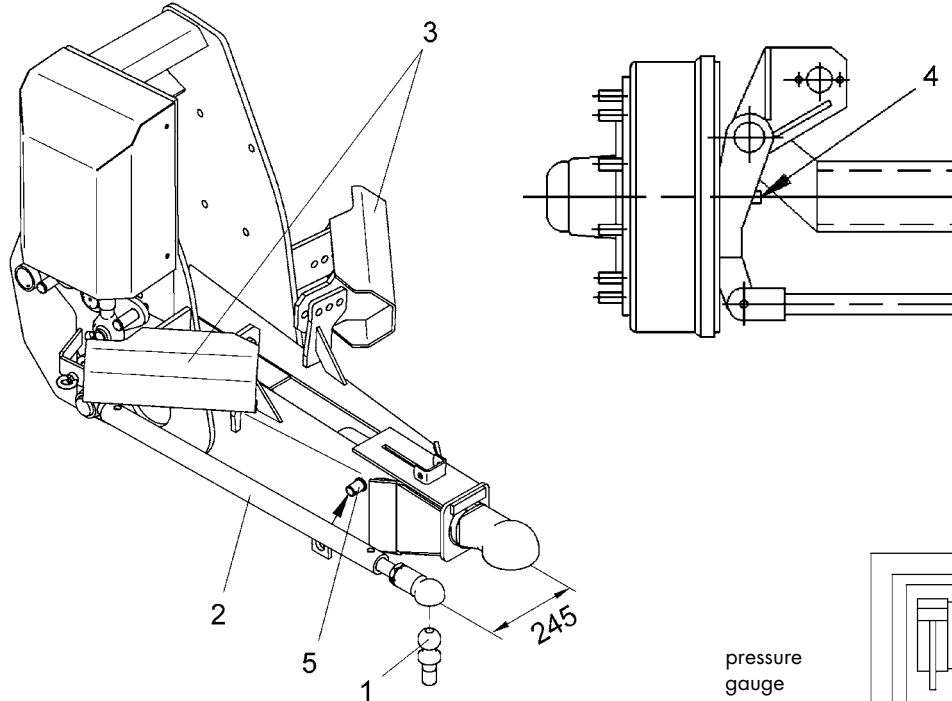

Fig. 8
- Attach the coupling ball (1/fig.8) for the steering rod (2) to the tractor securely at a distance of 245 mm from the hitch eye.
- Use the eye (5) fig. 8 to secure the steering rod when manoeuvring the machine.
When repair work is to be carried out, loosen the lock nut (1) fig. 8 and screw out the adjusting screw (2) to slacken chain tension.